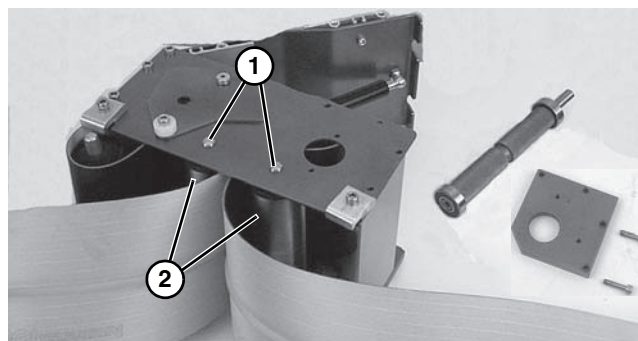

Figure 56
- For 5” (127 mm) or wider conveyor, depress both sides of each spring-loaded shaft (**Figure 56, item 1**). Remove pulleys (**Figure 56, item 2**).